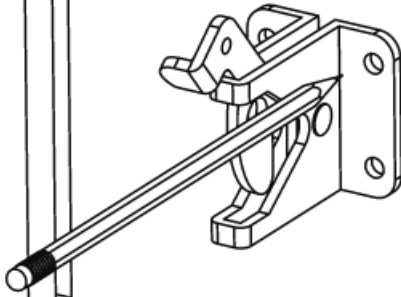

Fig. 3
b. Align striker bracket on gate. Striker bracket should be 1/4" above latch to allow for gate sag. Mark screw locations (Fig. 3).